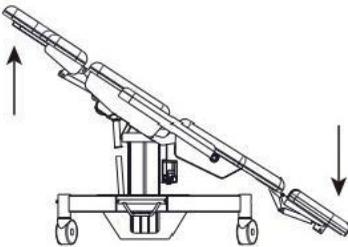

Figure 8
- Press button on line 4 of the hand controller to adjust the seat tilt angle of the chair (Figure 8). When the required seat tilt angle is reached release the button and the tilt angle will be fixed automatically.